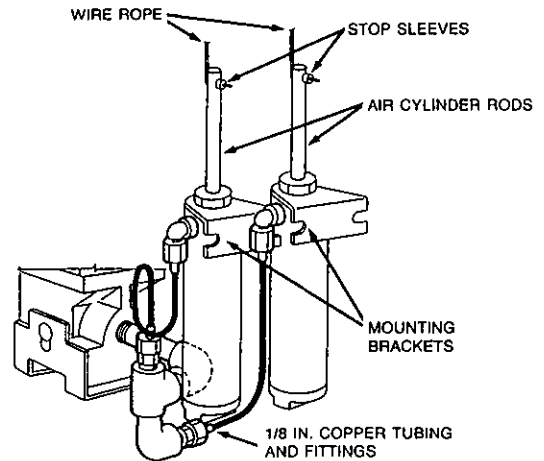

FIGURE 66
5. To install second mechanical gas valve shut-off system, locate second air cylinder and bracket assembly adjacent to first assembly and over the two remaining 7/32 in. (.6 cm) holes provided on right side of the enclosure. Assemble second cylinder with screws, lockwashers, and nuts as required. Wrench tighten. See Figure 66.